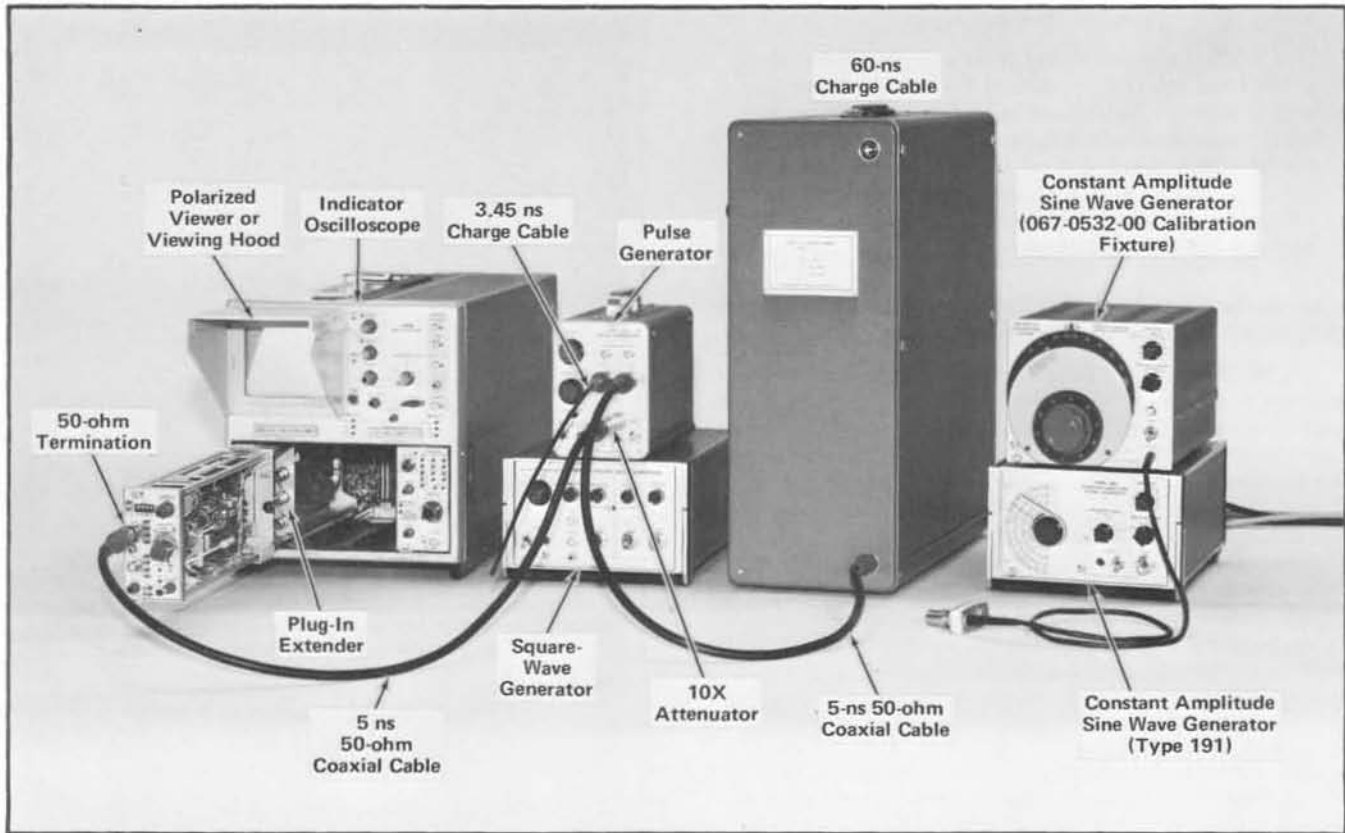

Fig. 5-23. Initial setup and the equipment required for checking the trigger and signal amplifier response described in steps 23 through 26.
a. Test equipment setup, with connections made at completion of step 23c, is shown in Fig. 5-23.